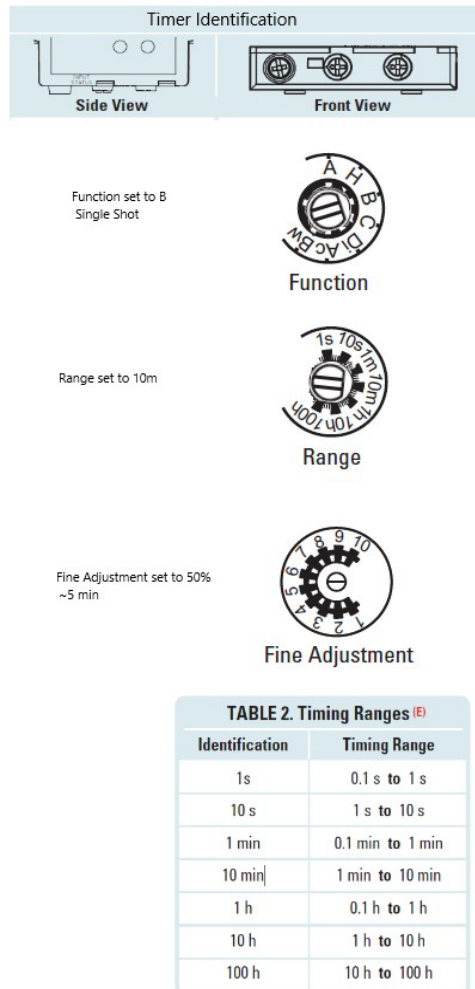

Figure 3-6 - Timer Controls
The optional Hush Timer is factory set to silence the audible siren for approximately five (5) minutes when the Hush button on the front panel is pressed. After the time elapses and an alarm condition remains active, the siren will reactivate. The time to silence the alarm can be adjusted by changing the Range and Fine Adjustment on the timer. The Range dial indicates the overall range or "timespan" that the timer will operate in. Factory default is 10m which means zero to ten minutes. After setting the Range, the Fine Adjustment dial can be set to indicate the precise time within the Range. Factory default is set at five minutes. NOTE: The Hush Timer does not affect the strobe beacons. They will remain lit depending on the active alarm status. See figure 3-6.